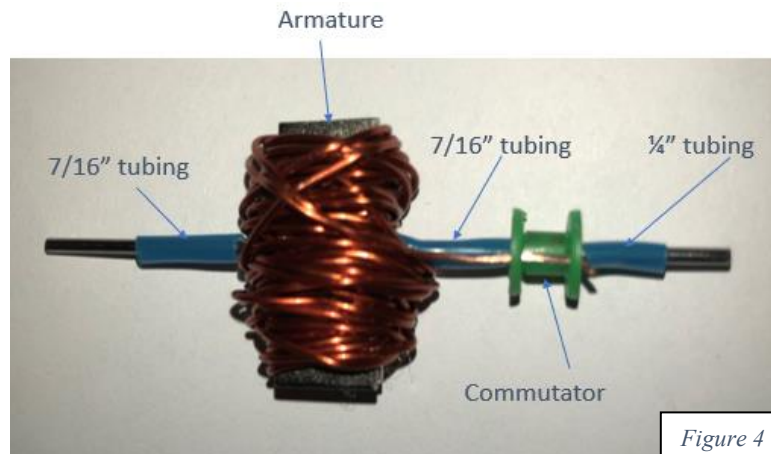

Figure 4
12. Make sure there is at least ¼" of free space at both ends of the shaft to allow there to be no resistance against the shaft supports. (Fig. 4)